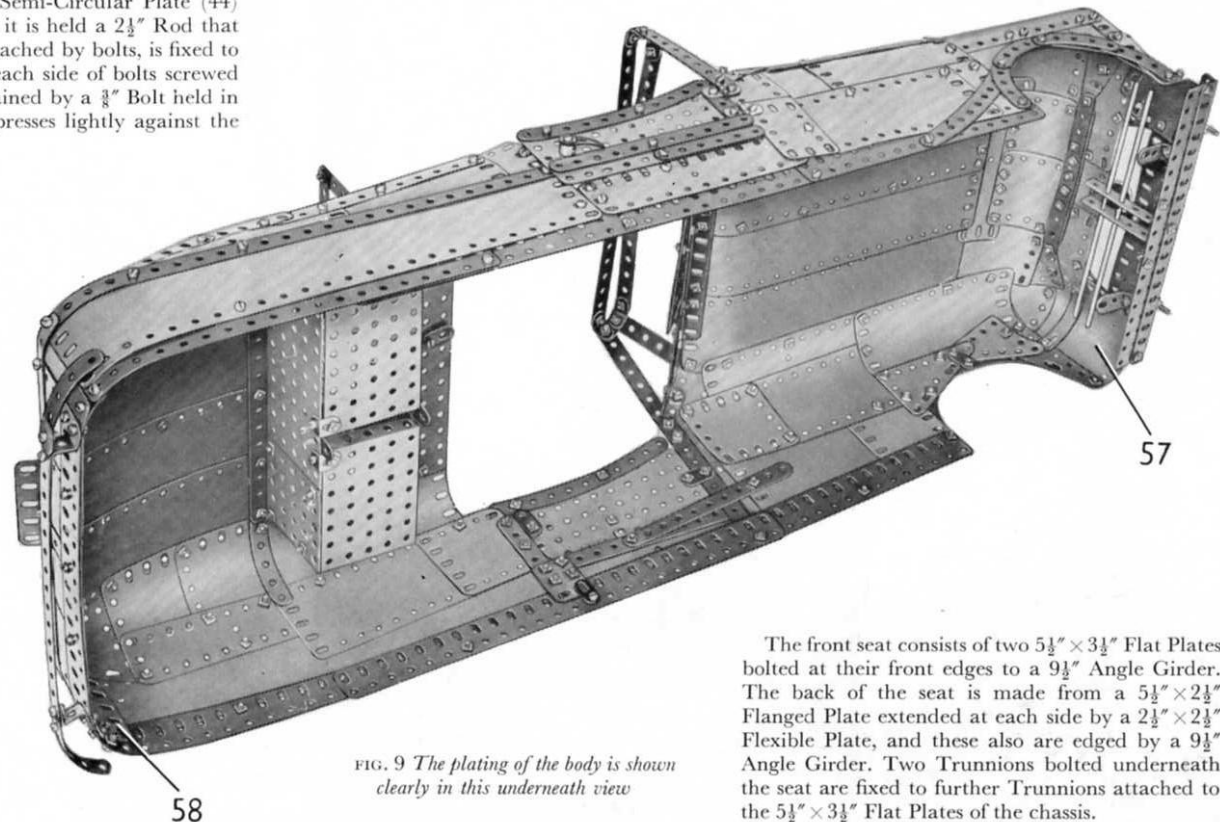

FIG. 9 The plating of the body is shown clearly in this underneath view
attached to the front by Angle Brackets, and this supports a $9\frac{1}{2}''$ Angle Girder that forms the front bumper. The Plates (57) are extended upward, by $5\frac{1}{2}'' \times 1\frac{1}{2}''$ Flexible Plates, which are joined at their inner ends to a $2\frac{1}{2}'' \times 1\frac{1}{2}''$ Flexible Plate. The inner edges of the Plates (57) and the $5\frac{1}{2}'' \times 1\frac{1}{2}''$ Flexible Plates are strengthened by two $2\frac{1}{2}''$ Curved Strips and a $5\frac{1}{2}''$ Curved Strip. Two $8''$ Rods are held by Spring Clips in $2\frac{1}{2}''$ Angle Girders bolted vertically to the front (see Fig. 9).